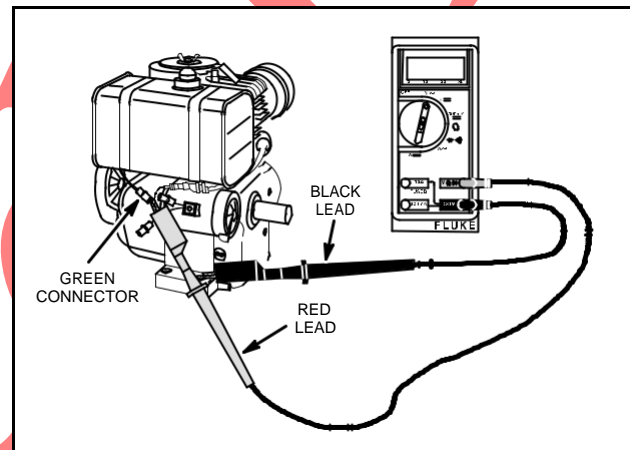

Fig. 775 – TESTING ALTERNATOR OUTPUT
4. Attach RED test lead clip to output terminal, Fig. 775.